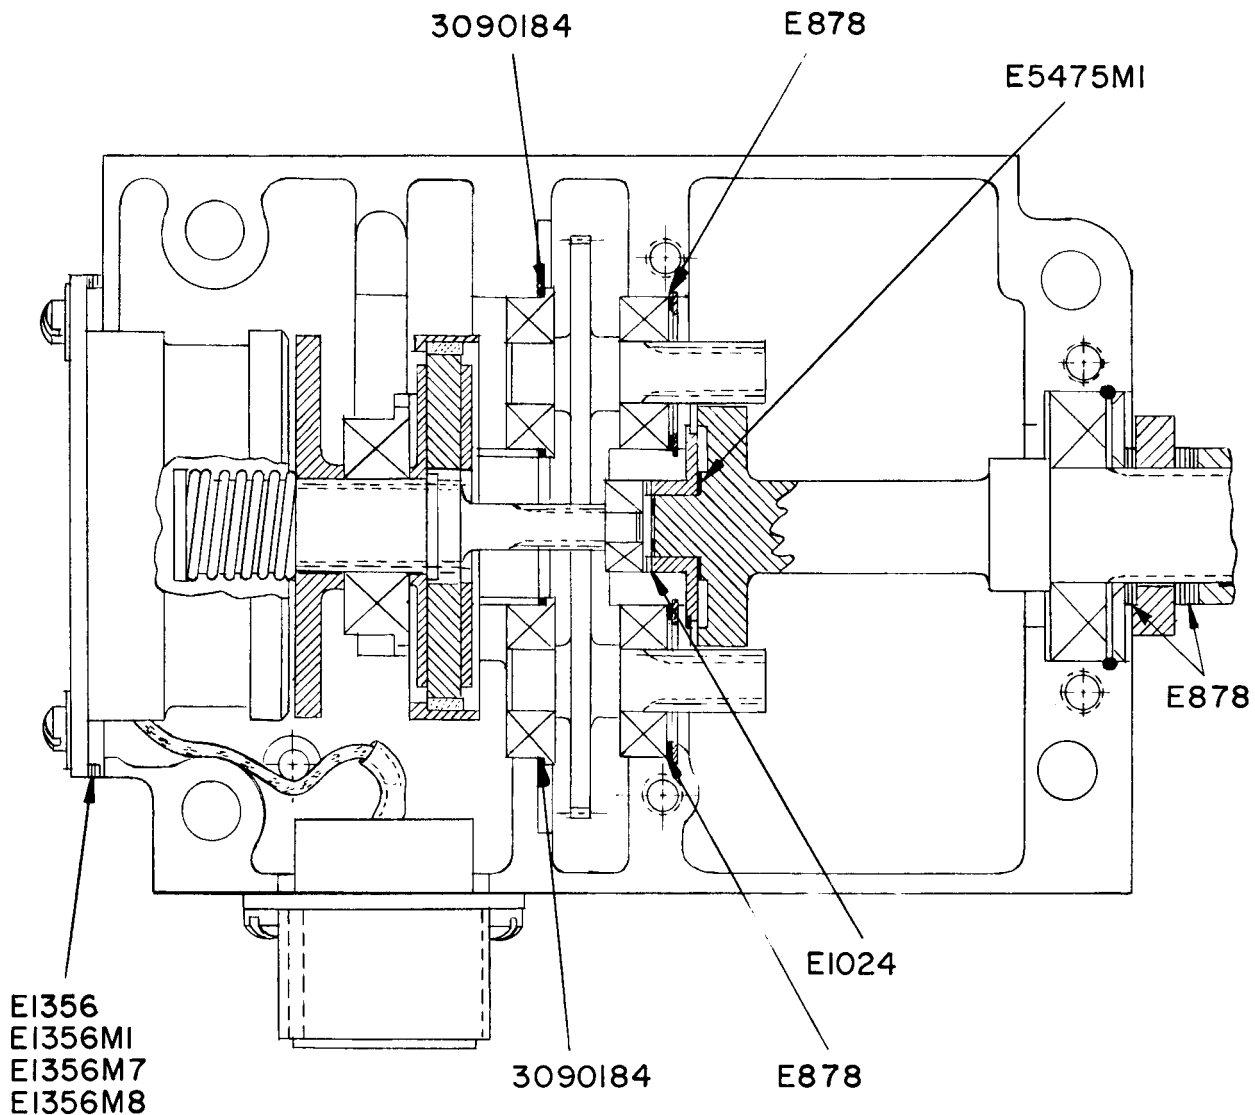

Figure 5-7. Shim Location. Diagram, Part No. R460M15-11.
c. Coat bearing journal surface of output spur gear shaft (40) with plastic gasket seal (item 9, table 2-2). Install retaining ring (38) onto ball bearing (39) and install ball bearing onto output spur gear shaft (40) with retaining ring facing pinion end of shaft. Remove excess plastic gasket seal, using a dry, lint-free cloth.
d. Install shims (37) and bushing (36) onto opposite end of output spur gear (40), and install output spur gear into appropriate location in gear housing (43).
e. Install gear housing (15) onto gear housing (43) and secure, using screws (16 thru 19). Torque screws between 18 and 22 inch-pounds.
put spur gear (40) for zero end play. Remove output spur gear (40) and add or remove shims (37) to obtain required end play, (See figure 5-7.)
h. Using crank arm assembly (2), rotate output spur gear (40). Output spur gear is properly shimmed when zero end play exists and it moves freely.
i. Separate gear housings (15 and 43). Remove output spur gear (40), with attached parts, and set aside.
j. Using a pressing fixture, install ball bearings (32 and 34) onto helical gear (35).